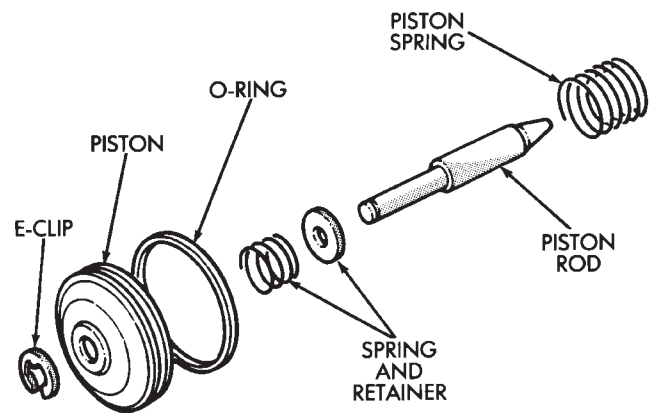

Fig. 32 Assembling Second Coast Brake Piston
(39) Assemble second coast brake piston components (Fig. 32).